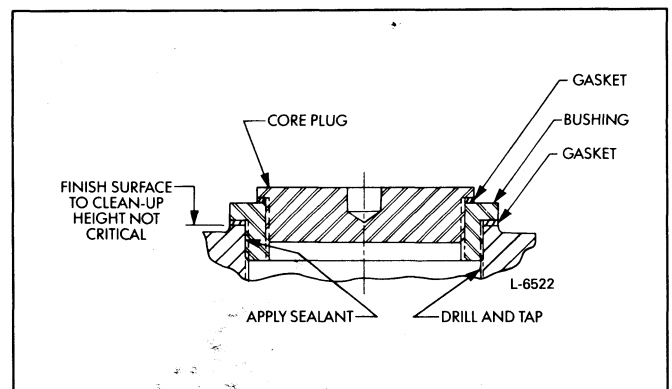

Fig. 5 - Air Box Core Plug Hole with Service Bushing and Plug Installed
4. Place the bushing-to-block gasket in place and install the service bushing (Fig. 5).
5. Place the core plug-to-bushing gasket in place and install the core plug. Tighten the core plug to 230-270 lb-ft (312-366 N#m) torque. Allow the sealer to cure for two (2) hours before pressure testing the block. This will help ensure a leak-free installation.